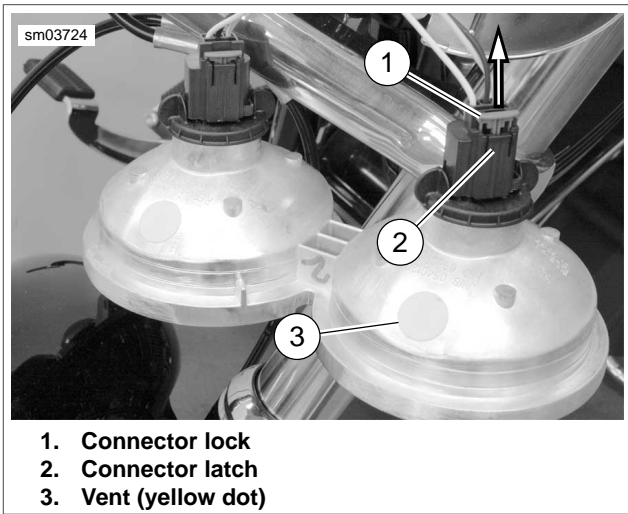
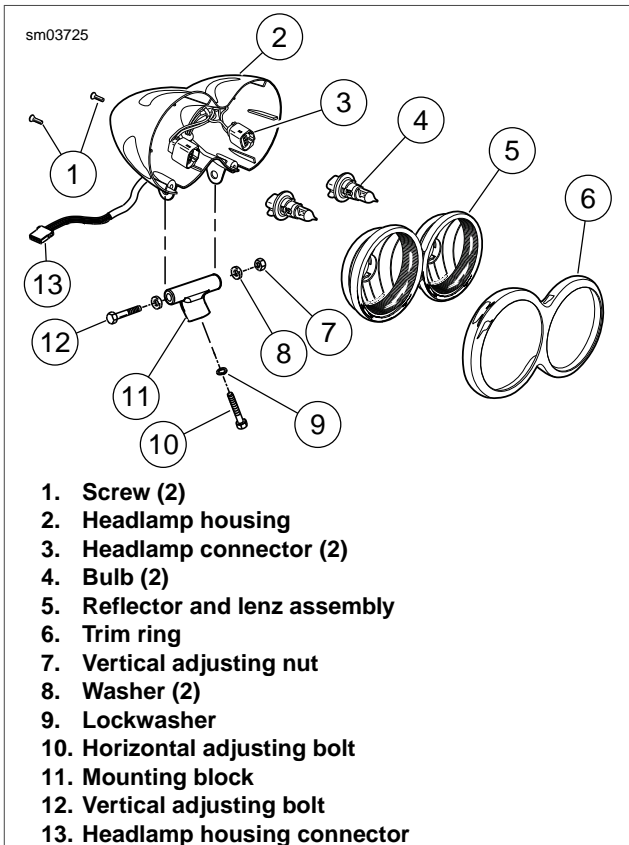

Figure 8-21. Dual Headlamp Connector
Figure 8-22. Dual Bulb Headlamp
1. See Figure 8-22. Remove two screws (1) and remove trim ring (5).
2. Pull reflector assembly (4) away from the headlight housing (2).
3. See Figure 8-21. Raise latch lock (1). Depress latch (2) and disconnect connector.
- *Dual Bulb Headlamp:* See Figure 8-21. Ensure vents (3) (yellow dots) are UP when installing reflector assembly in housing.
1. Loosen fuel tank to gain access to the headlamp harness connector (13). See 4.5 FUEL TANK.
2. See Figure 8-20 or Figure 8-22. Separate connector (13) [38].
3. Remove bolt (12) nut (7) and washers (8, 14).
1. See Figure 8-20 or Figure 8-22. Attach headlamp assembly to mount (11) using bolt (12) nut (7) and washers (8, 14).
2. Tighten bolt (10) to 25-30 ft-lbs (33.9-40.7 Nm).